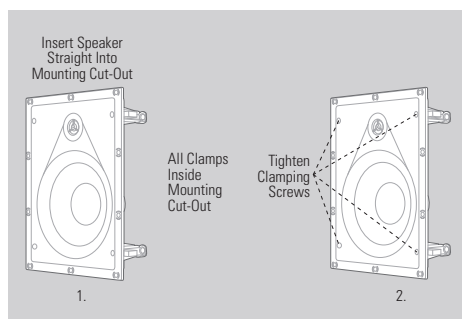

Figure 7
3. Insert the loudspeaker into the opening. Use your screwdriver to tighten the four screws on the loudspeaker front side. The loudspeaker brackets will clamp down on the wall material. (Figure 7)